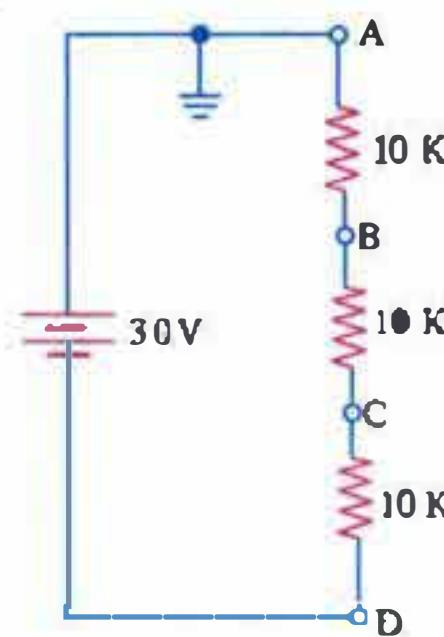

Fig. 1.22
8. In the network of Fig. 1.22, compute the potential of points A, B, C and D. Which point is at a higher potential : B or C ? [0 V; -0 V; -20 V; -30 V; B]